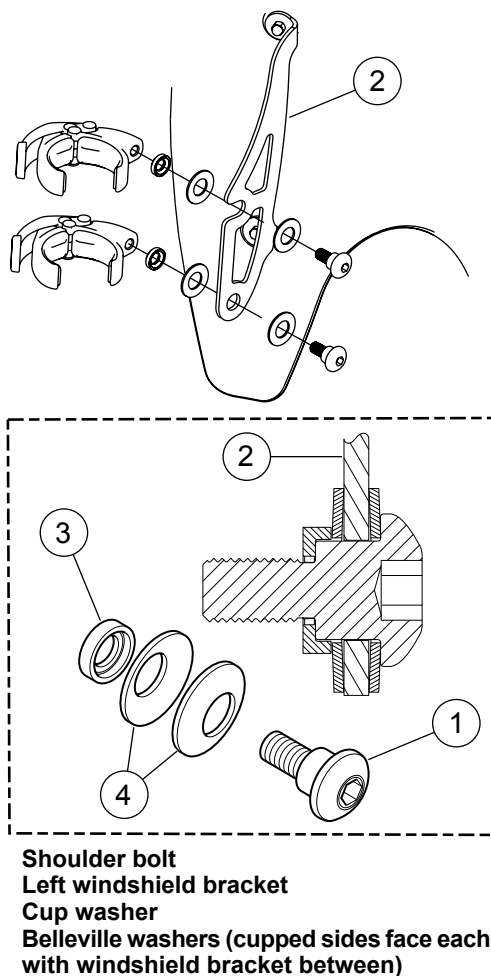

Figure 2. Windshield Mounting Clamp
1. See Figure 2. Place one Belleville washer on a shoulder bolt so that cupped side of washer is facing away from bolt head.
6. See Figure 2. Assemble second hardware stack.